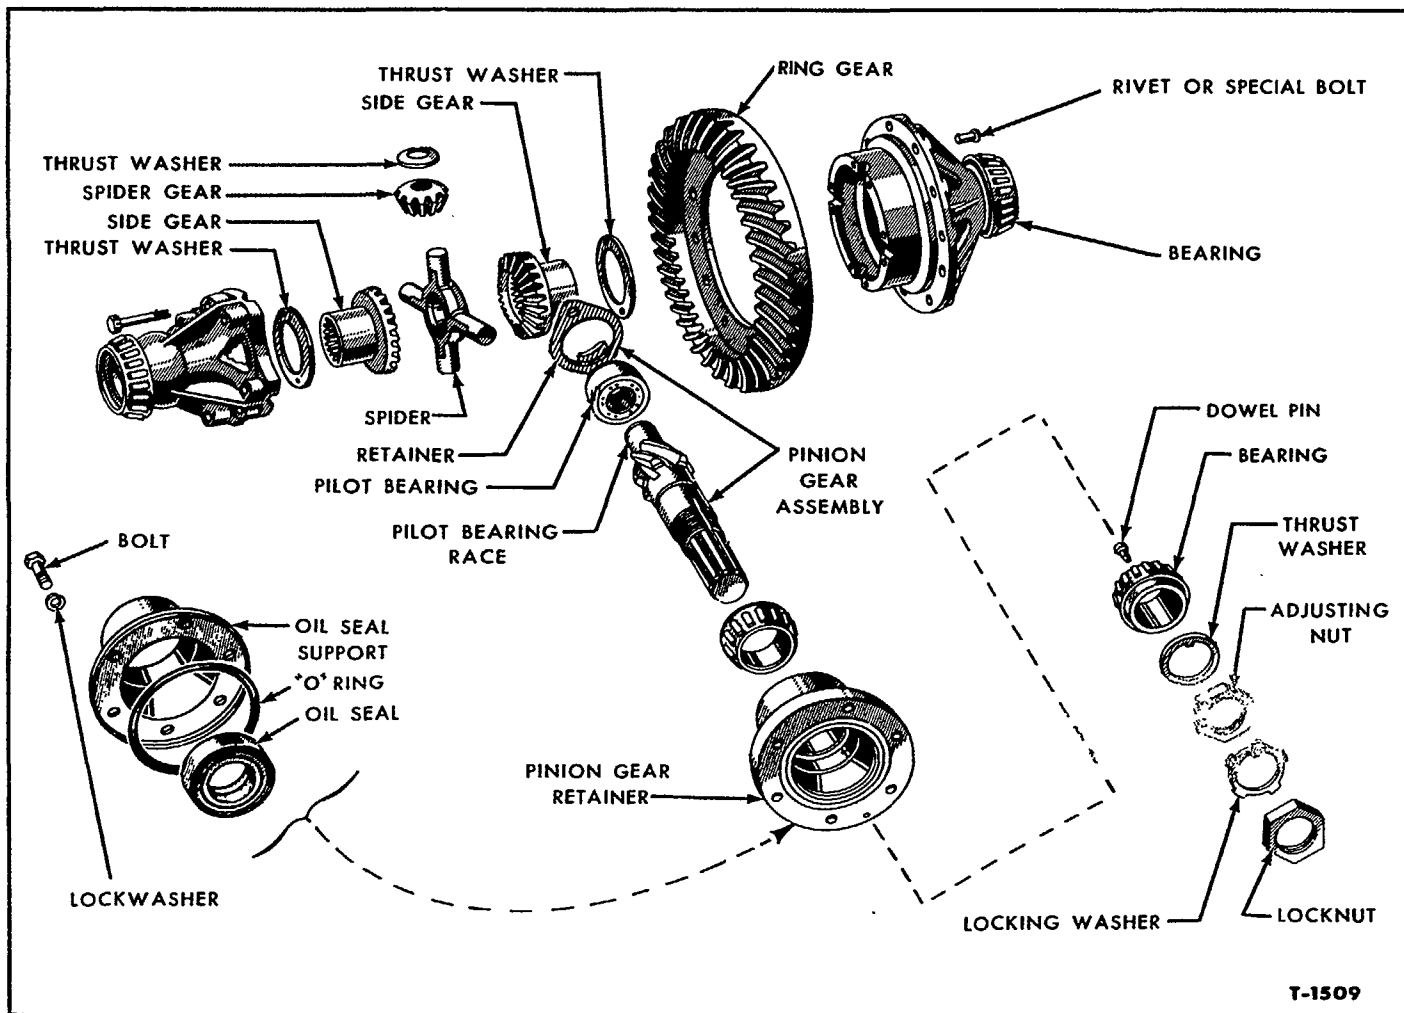

Figure 10—Differential & Pinion Gear Assemblies
3. Remove the spider, small thrust washers, spider gears, side gears and large thrust washers, Figure 10.
2. Install the differential side gear thrust washers and side gears, Figure 10.
1. Remove the pinion gear retainer bolt and the oil seal support, Figure 10.
2. Straighten the lips of the locking washer and remove the lock nut, locking washer, adjusting nut, and thrust washer, Figure 10.
4. Inspect the rear or "pilot" bearing race for looseness or scoring, Figure 10. Look inside the differential housing and inspect the bearing and retainer.
1. Clamp the pinion gear retainer, Figure 10, in a soft-jawed vise and remove the cups with Puller and Slide Hammer 94.
3. Remove the oil seal from the oil seal support, Figure 10. Press in the new seal using Step Plate 630-7.